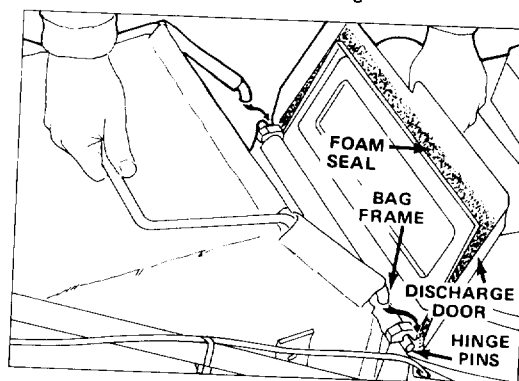

Figure 12
2. **INSTALLING BAG** — Raise discharge door and hook bag frame onto hinge pins (Fig. 12). Allow bag to rest on mower housing over discharge opening. Close door and make sure it seals around top of bag opening.